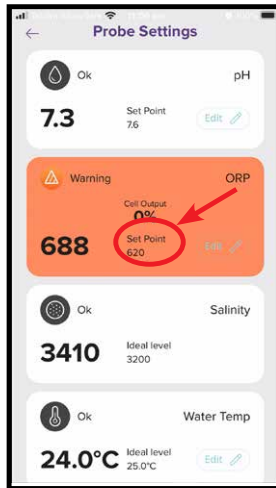

Figure 8.40
- Once you're back to the probe setting menu, you'll notice that the ORP set point has changed (ref figure 8.40)